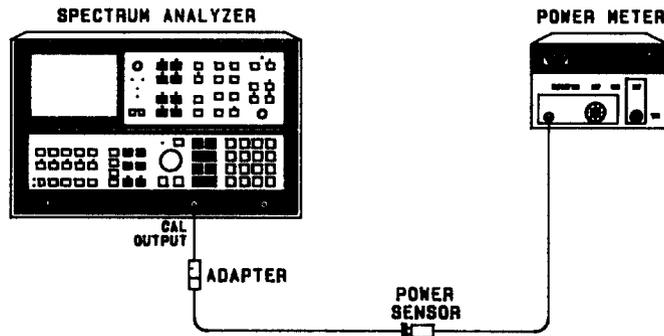

FIGURE 13. CALIBRATOR AMPLITUDE ACCURACY TEST SETUP
1. Connect equipment as shown in Figure 13.